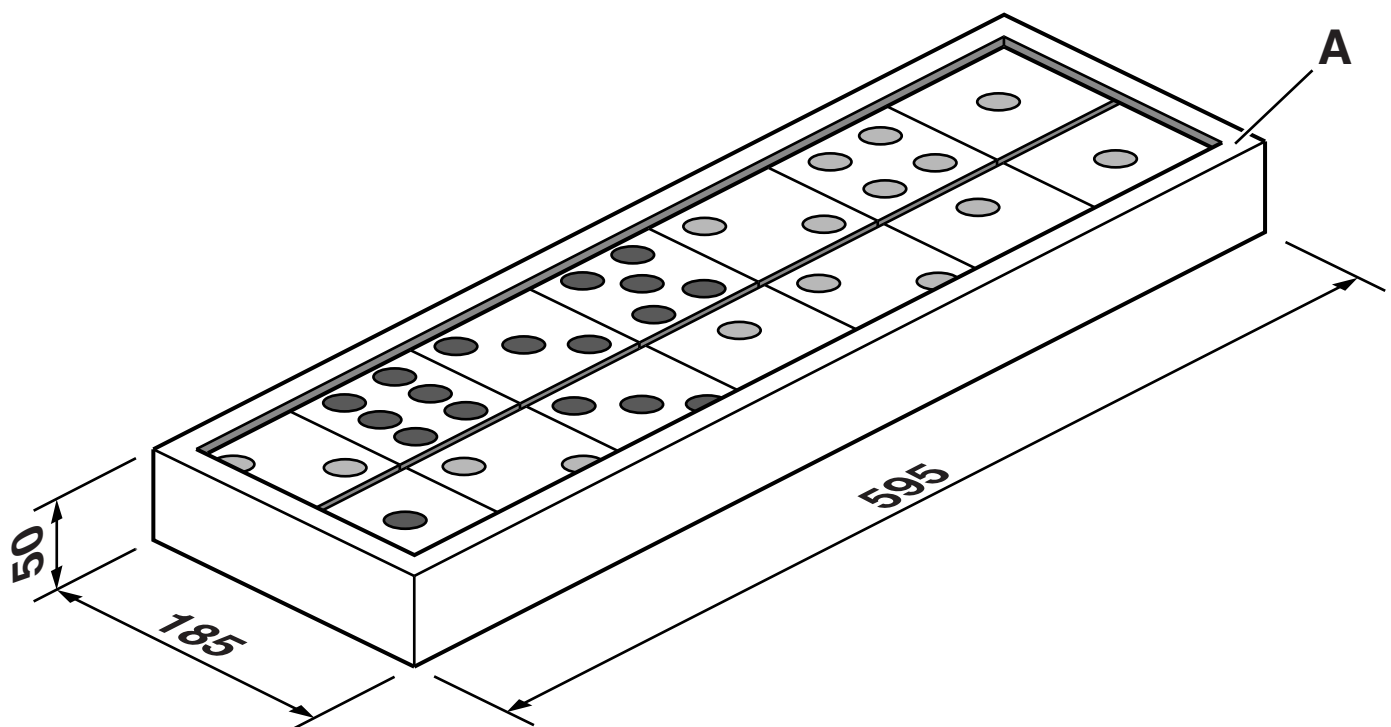

Fig. 5
- 4 Fig. 5 shows a box of giant dominoes used by children.